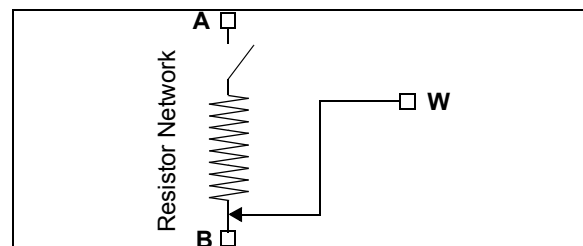

FIGURE 5-2: Resistor Network Shutdown State (RxHW = '0').
- The P0W, P1W, P2W, and P3W terminals are simultaneously connect to the P0B, P1B, P2B, and P3B terminals, respectively (see Figure 5-2)